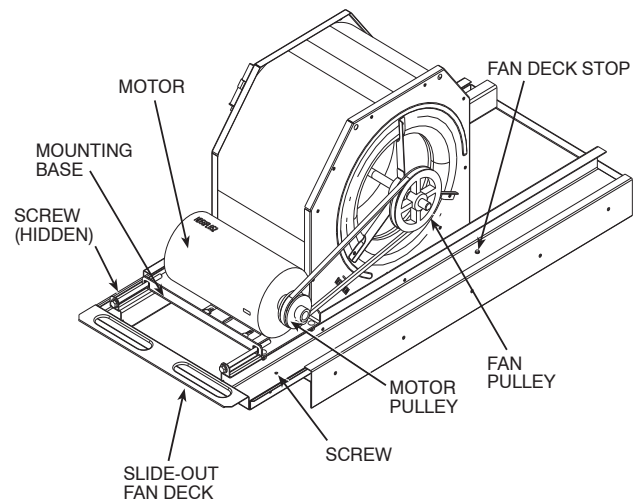

**Fig. 29 – Evaporator-Fan Motor Adjustment
3. Remove two no. 10 screws at front of slide-out fan deck. Save screws. (See Fig. 29.)
Evaporator Fan Performance Adjustment (See Fig. 29 and 30.)
4. Move motor mounting plate to adjust to proper belt tension. Motor adjuster bolts may be used to tighten belts. (See Fig. 29.) Do not overtighten belt.